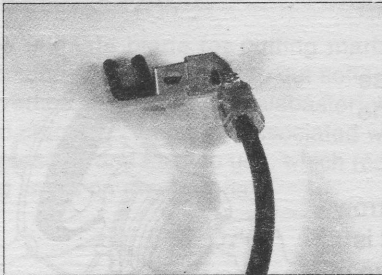
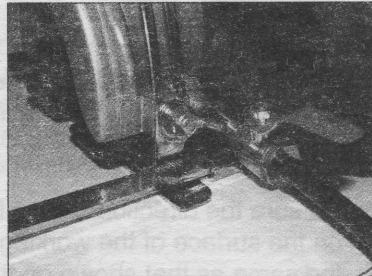

Figure-2
Figure-3
3. Insert the plastic nozzle on the water feed assembly behind the height adjustment slide. Make sure that the bridge (Part No. 133094) is in front of the slide. If your blade is already installed, the plastic nozzles should be positioned so that each nozzle directs water spray onto each side of the blade. (See Figure-2 & Figure-3)